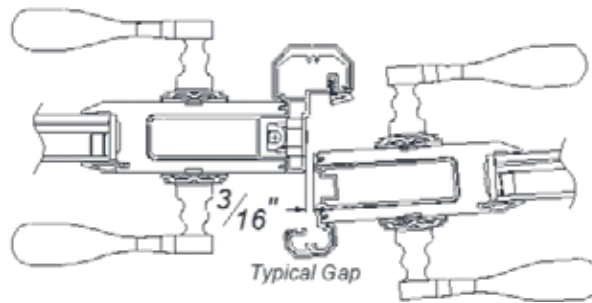

Figure 11
- 3. Check** door alignment. **If a single door**, check against the frame jamb. **If a double door**, check against the inactive panel. $3/16"$ of space should be showing when the active panel is slightly ajar (Figure 11).